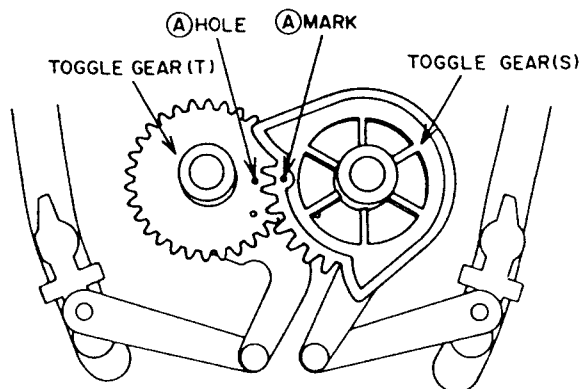

Fig. 3-10
- 1) Set the TOGGLE GEAR (T) and TOGGLE GEAR (S) to the unloaded position with your fingers. Align the (A) mark on the TOGGLE GEAR (S) with the (A) hole of the TOGGLE GEAR (T) as shown in Fig. 3-10.